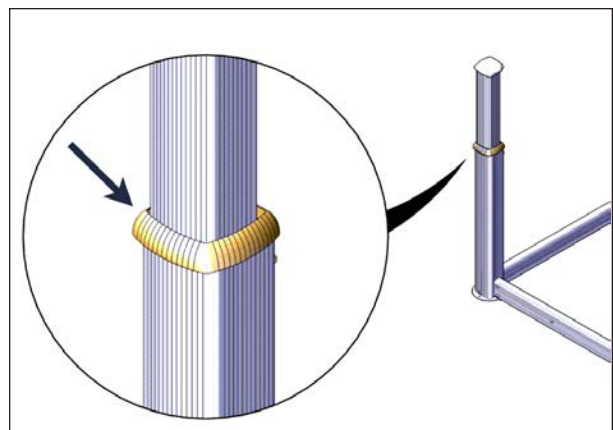

FIGURE 48: SLEEVE SEAL INSTALLATION
21. Make sure the sleeve seal on each post is slid all the way down against the top of the outer sleeve see Figure 48.